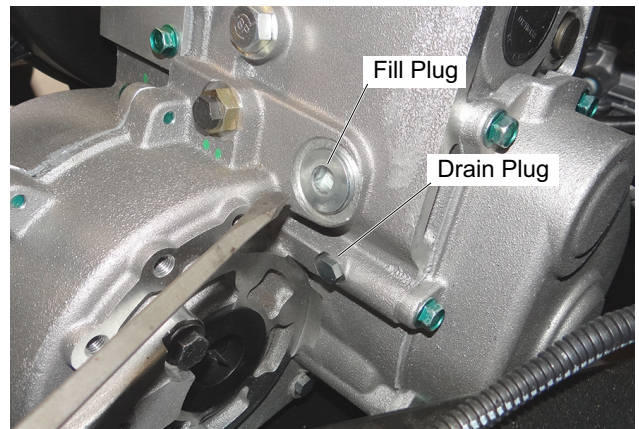

Fig. 12 Fill and Drain Plugs
- 8. Remove the nuts (20) and bolts (7) that secure each side of the upper control arm (1) to the vehicle frame (Ref. Fig. 12).